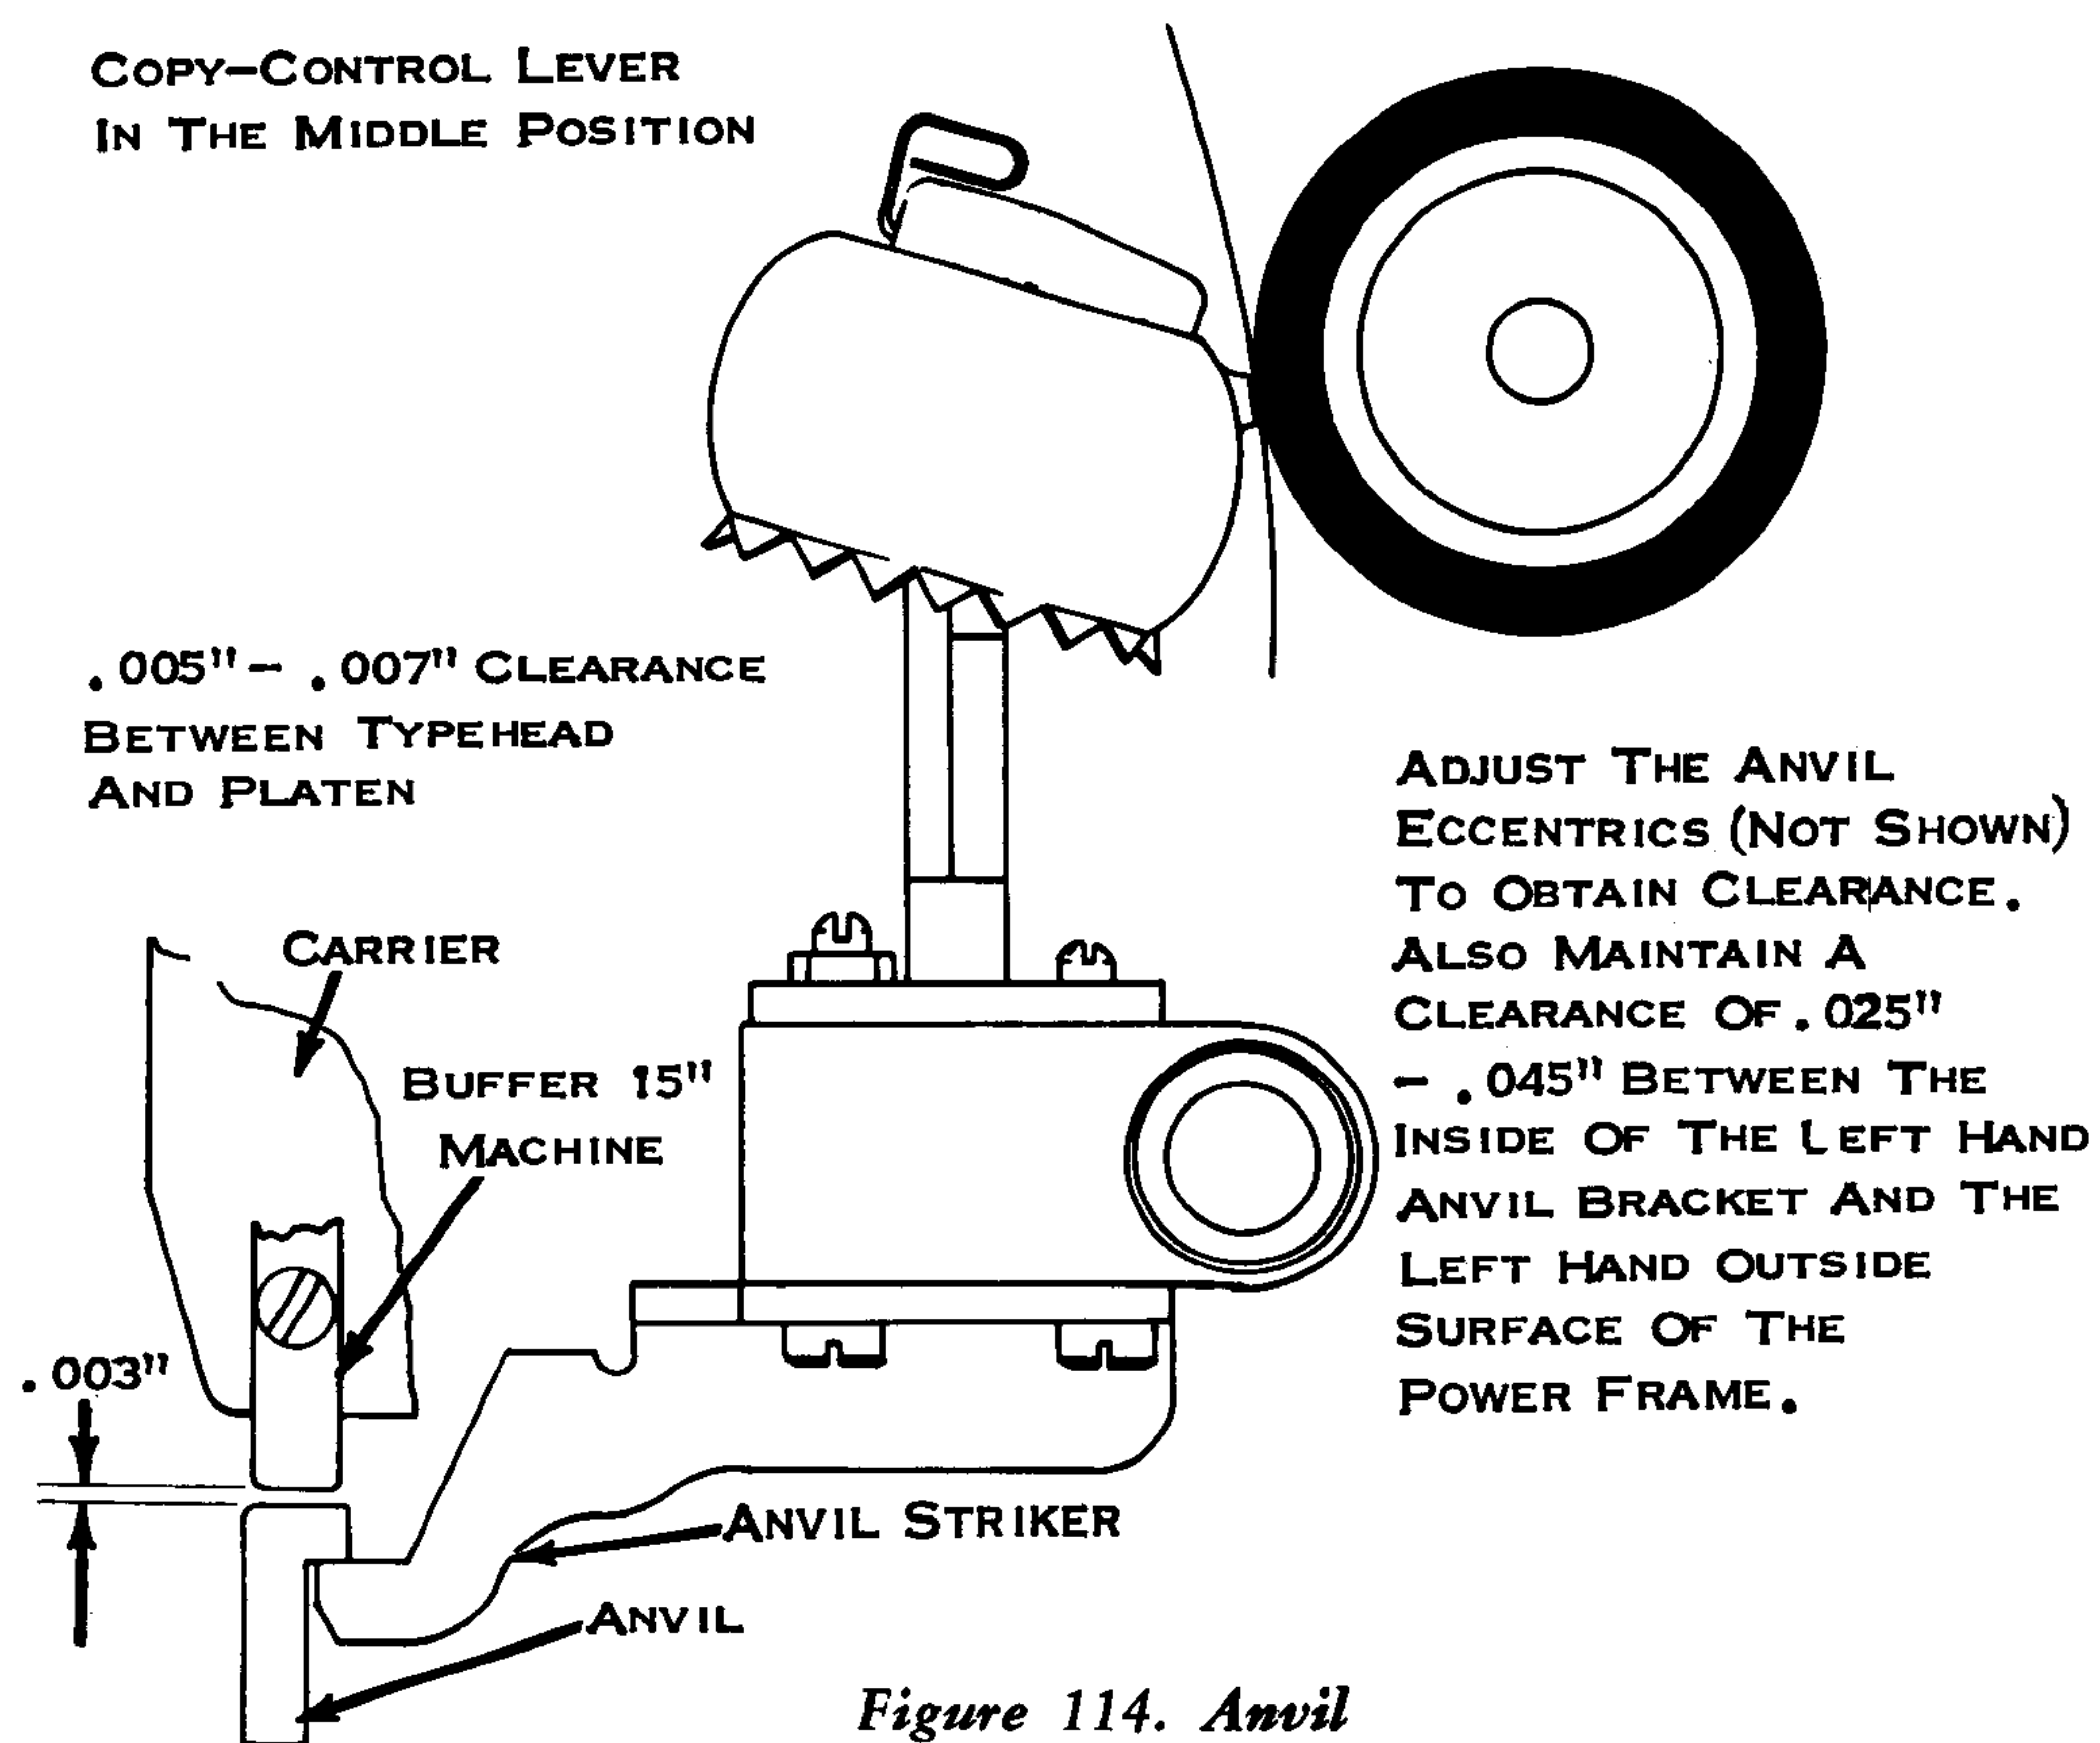

Figure 114. Anvil
10. **Anvil** (Fig. 114) - With the high part of the anvil eccentrics out, adjust the anvil so that there is a clearance of .005" to .007" between the platen and the typehead with the striker on the rocker held against the anvil. **CAUTION** - Raising or lowering either end of the anvil will slightly effect the adjustment of the other end. Be sure to recheck each adjustment. The adjustment should be made without the use of the ribbon and with no paper around the platen. **NOTE:** The carrier buffers (15" machine only) should be adjusted for .002" to .004" between the buffer and the anvil. Buffers should be checked on both ends of the carriage.